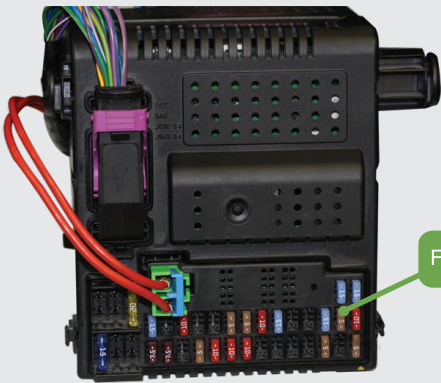

Fig. 1 Central Electronic Module
- 3 Using a test light, check for power to fuse #15 on the CEM. Is 12V present at the fuse? See Fig. 1